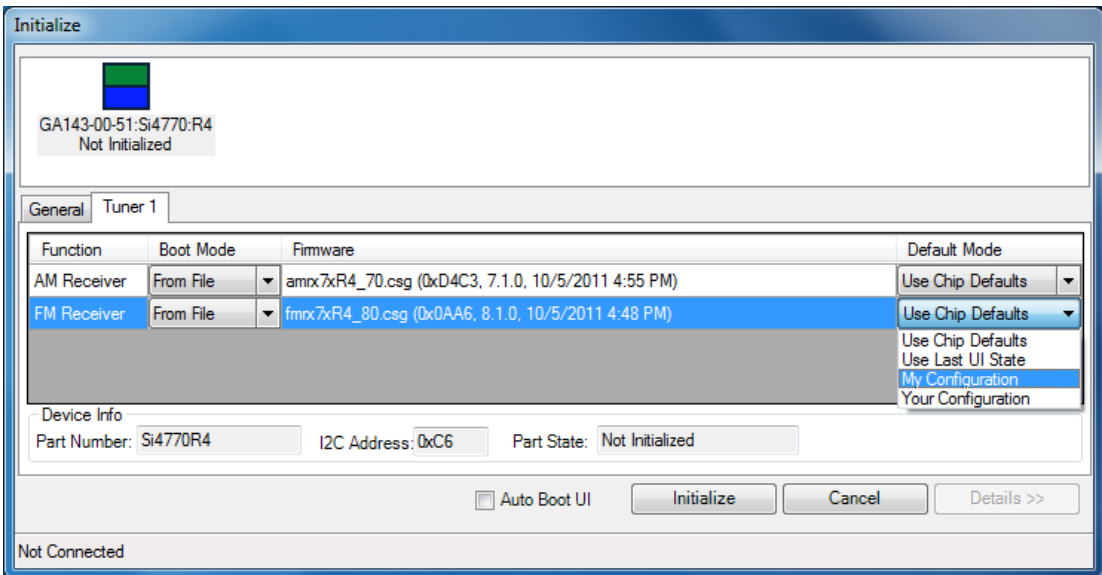

**Figure 11. Naming a Configuration State During Save**
2. Click on Save Current State and the Select Configuration window shown in Figure 11 will pop up. Enter the name of the configuration state and click OK. The current state called My Configuration which contains the property values is now saved.